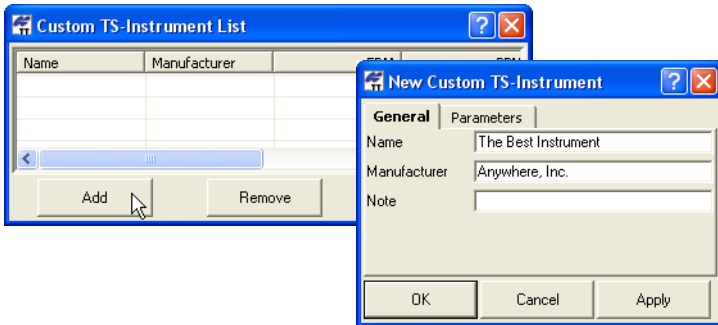

Figure 5-84. New Custom TS Instrument
3. Click **Add** (Figure 5-84). To remove an instrument, click on the TS instrument's row and click **Remove**.
4. On the *General* tab, edit the *Name*, *Manufacturer*, and *Note* fields (Figure 5-84). Then click **Apply** to save the information.